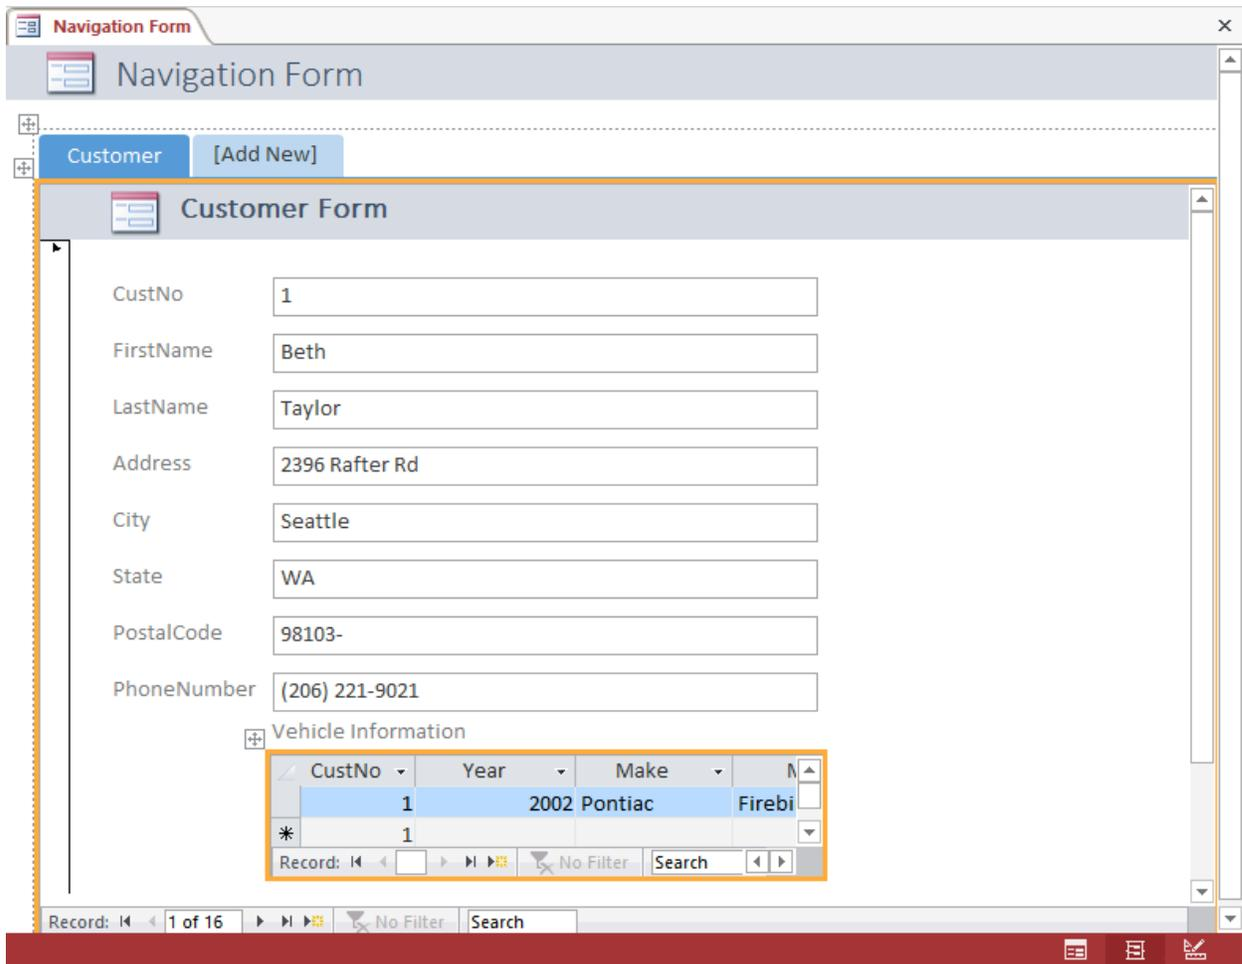

Figure 16: Layout View with Customer Form in the First Tab
- Use the Customer Form in the Object Pane of the First Tab: Dragging and dropping objects from the Navigation pane is a simple way to specify the object pane of a tab. With the navigation form in layout view, drag the *Customer* form from the object pane and drop it on the tab. The *Customer* form then displays in layout view (Figure 16). Note that a second tab has been automatically added.